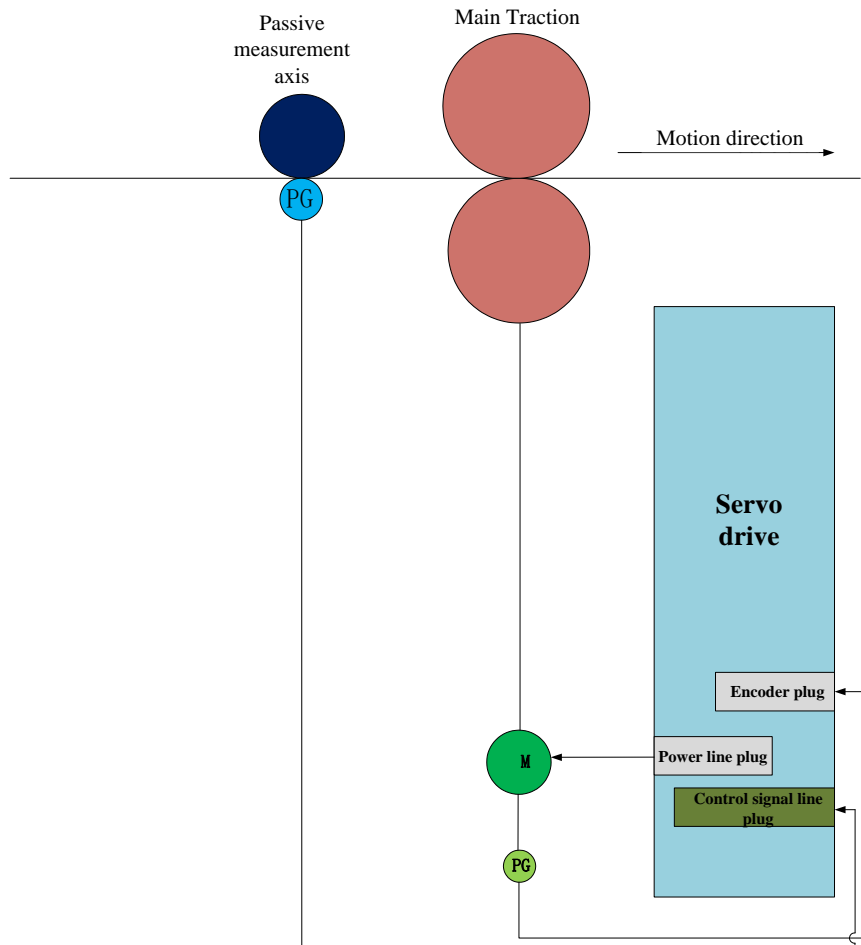
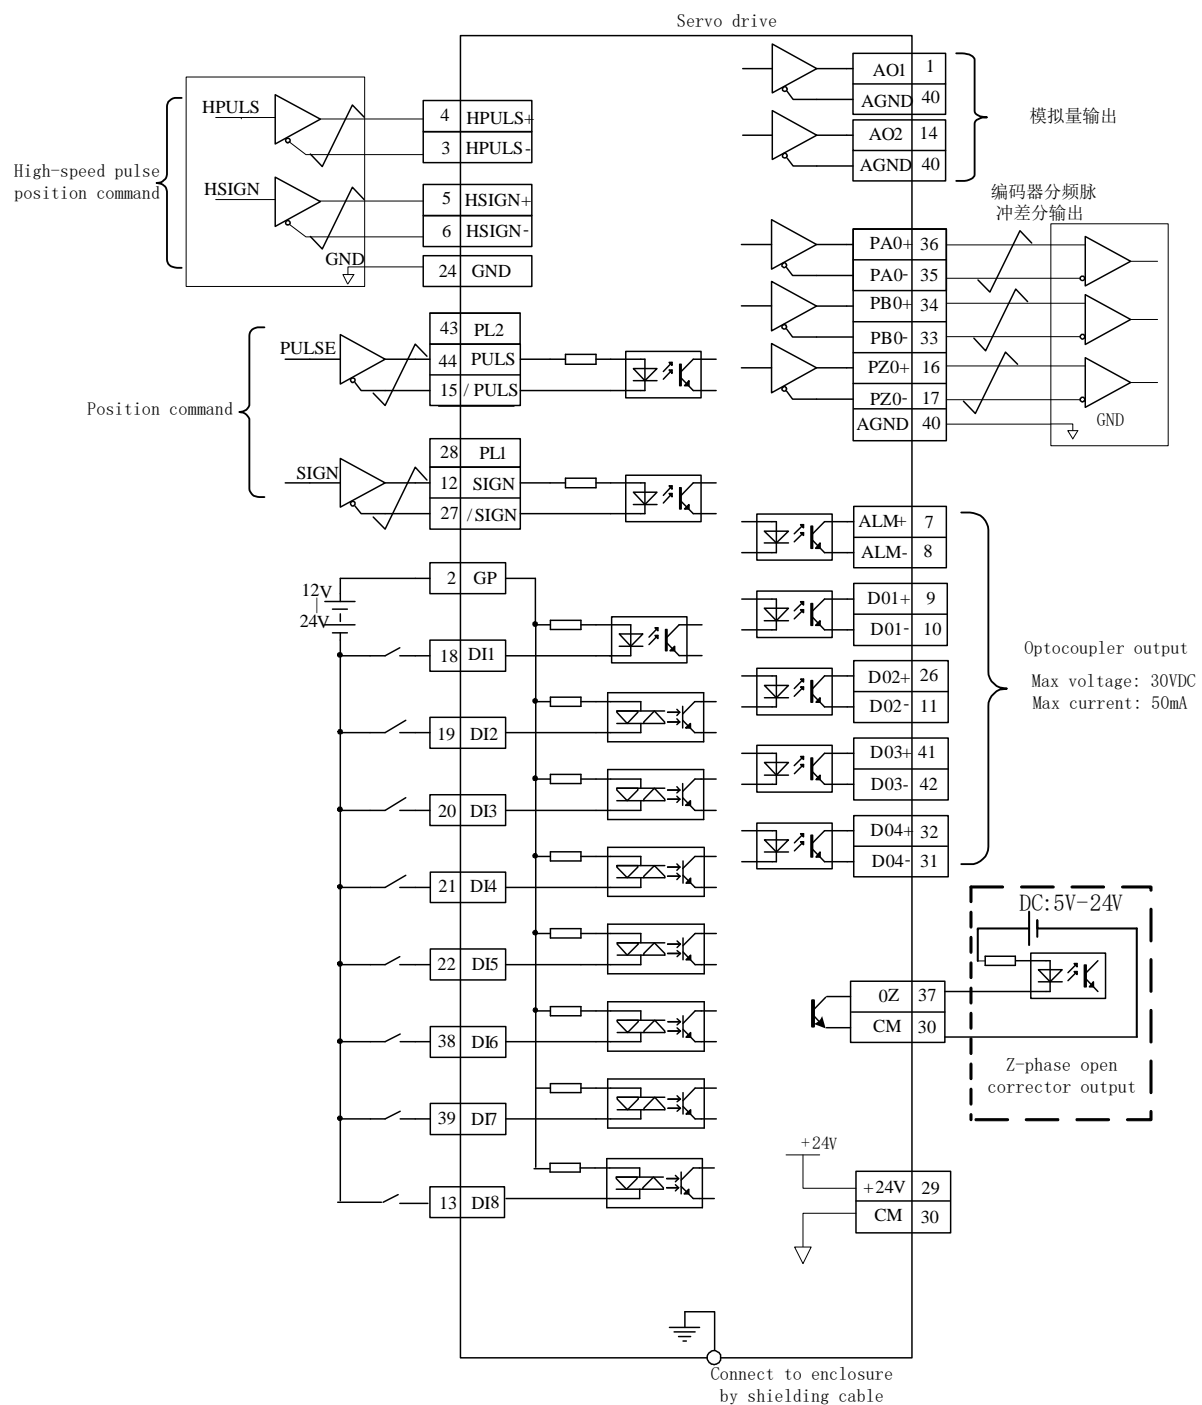

Fig 6.4.37 Full closed loop typical application sketch map
Fig 6.4.39 Full closed loop mode typical wiring diagram
- ★ Refer to the wiring instruction of Fig 6.4.37 or Fig 6.4.39, connect DI/DO ;